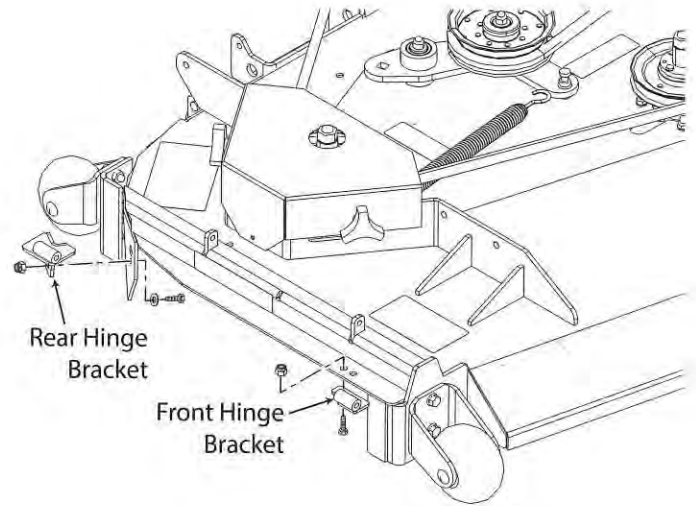

Figure 3-9. Hinge Weldment Installation
5. Install the rear hinge bracket to the cutter deck using one (1) 5/16-18 x 1" bolt, one (1) 5/16" flatwasher and one (1) 5/16-18 elastic stop nut. Do not tighten the hardware. See Figure 3-9.
14. Install the front hinge bracket to the cutter deck using two (2) 5/16-18 x 3/4" bolts and two (2) 5/16-18 elastic stop nuts. See Figure 3-9, page 9. Do not tighten the hardware.